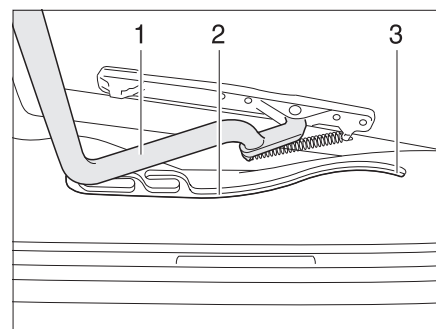

Fig. 87 Heki skylight, guide
- Pull the bar (Fig. 87,1) in the guides (Fig. 87,2) to the rearmost position (Fig. 87,3).
- Use both hands to push the bar (Fig. 87,1) slightly upwards.
- Pull the bar in the guides (Fig. 87,2) to the desired position.